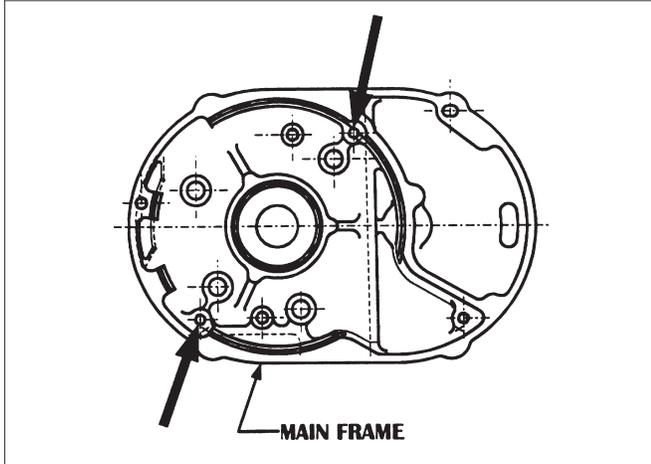
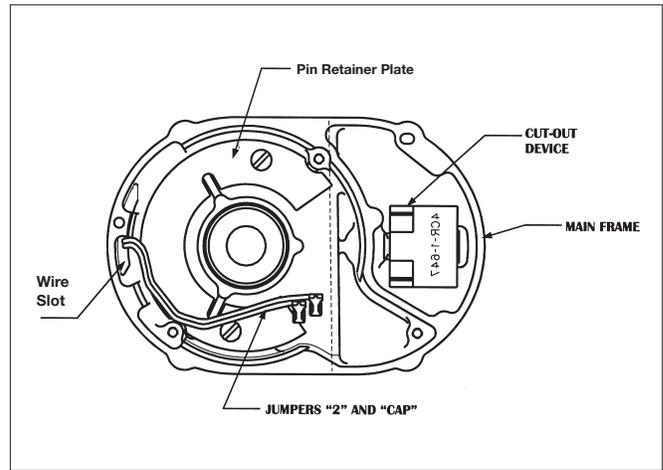

Figure 14 - Main Frame
Figure 15 - Stator Installation
9. To install the stator, (Refer to Figure 15) and make sure that the pin retainer plate has been assembled to the main frame. On single phase units slide jumpers “2” and “CAP” through the wire slot in the main frame. Route these wires around the rotor bearing boss in the main frame as shown in Figure 15. Attach the brown and blue stator leads and “2” jumper to cut-out device (refer to wiring diagram). Slide the cut-out device into the cavity as shown. Push the cut-out device down until it sets on the main frame. Place the capacitor on top of the cut-out device and attach “CAP” jumper and the yellow stator lead to it. Re-route jumpers “2” and “CAP”, if necessary to make sure they clear the rotor bearing boss as shown in Figure 15. On all units slide stator leads through wire slot. Align the slots in the stator shell with the threaded holes in the main frame, as shown in Figure 14. With the leads down, slide the stator into the main frame. Slide the rotor, large bearing first, into stator. Place the rotor thrust washer on top of the exposed rotor bearing and then assemble the motor end cover to the main frame. Using wiring diagram, complete the wiring at the brake end of the unit.